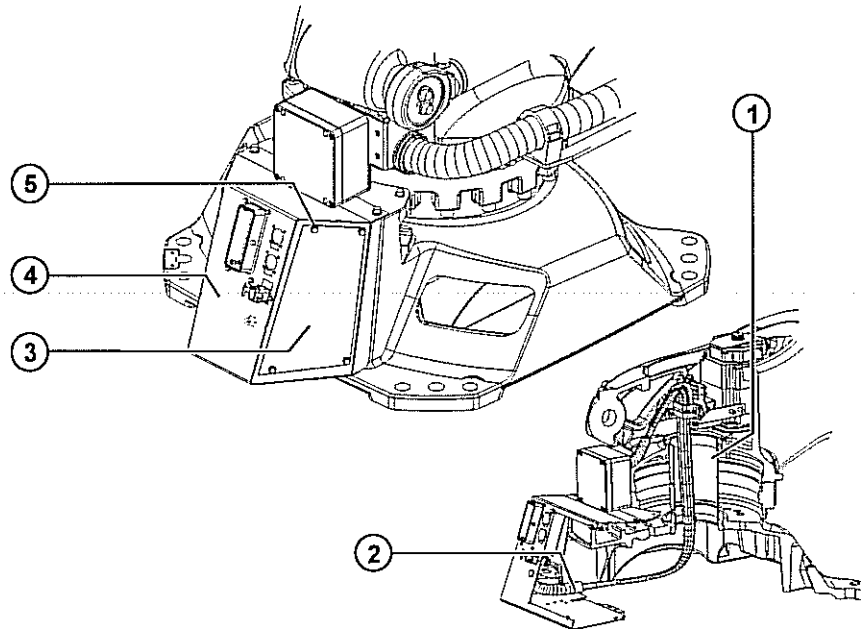

Fig. 10-8: Greasing the cable set
1. Remove 4 Allen screws with conical spring washers, and take off the cover. If necessary, interface A1 can additionally be carefully pulled back (>>> Fig. 10-8).